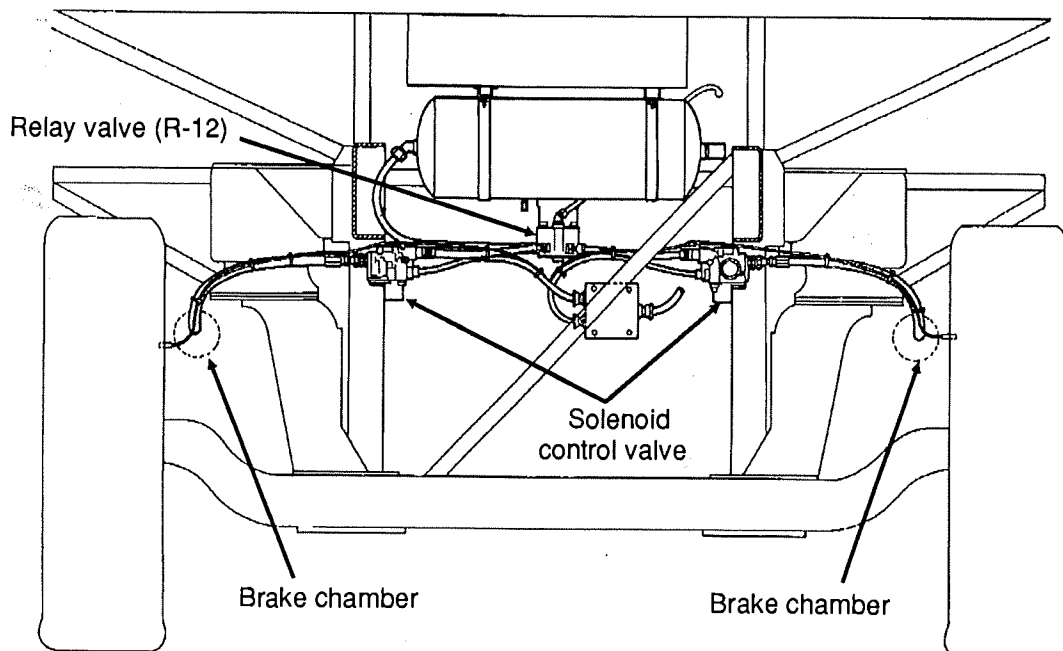

FIG. 19
This ABS system is equipped with six (6) series mounted solenoid control valves, located between the brake chamber and the relay valve (R-12) refer to figure 19. Note that, on the front steering axles and on the drive axles, there is only one (1) valve controlling two wheels on the same side. This is an "On/Off" type valve, i.e., at brake application, the valve exhausts air in the brake chamber when the electronic unit senses that the corresponding wheel speed decreases according to the other wheels.